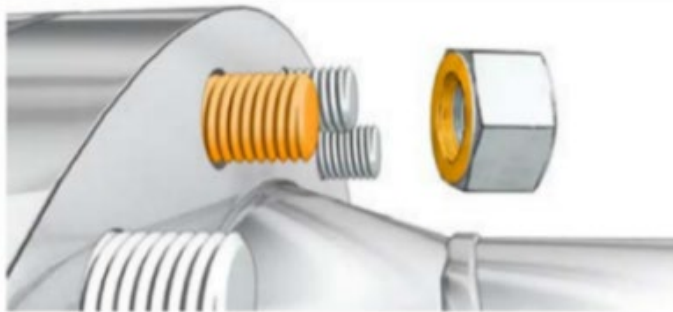

Figure 1: Lubrication (also refer to Note 3)
5. Grease bolts sufficiently with Molykote® G-Rapid Plus so that all threads and contact surfaces between nuts and flanges are covered with lubricant as shown in Figure 1.